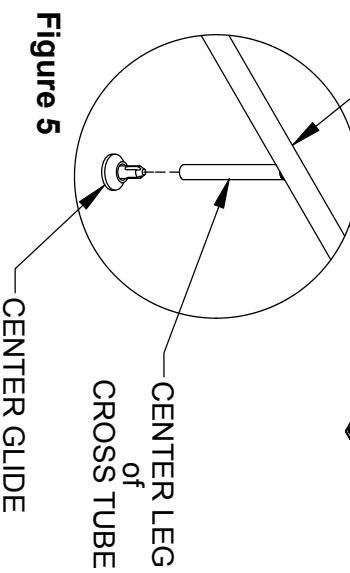

Figure 5
Step 5: For Twin size beds skip step 5 and go to step 6. Full, Queen and King size beds: Press the round white CENTER GLIDE into the bottom of the center legs of the CROSS TUBES as shown in Figure 5.